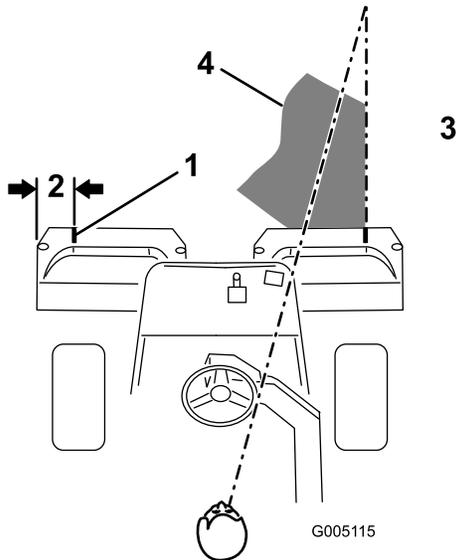

Figure 9
2. Either place a strip of white tape or paint a line onto each basket paralleling the outer edge of each basket (Figure 9).